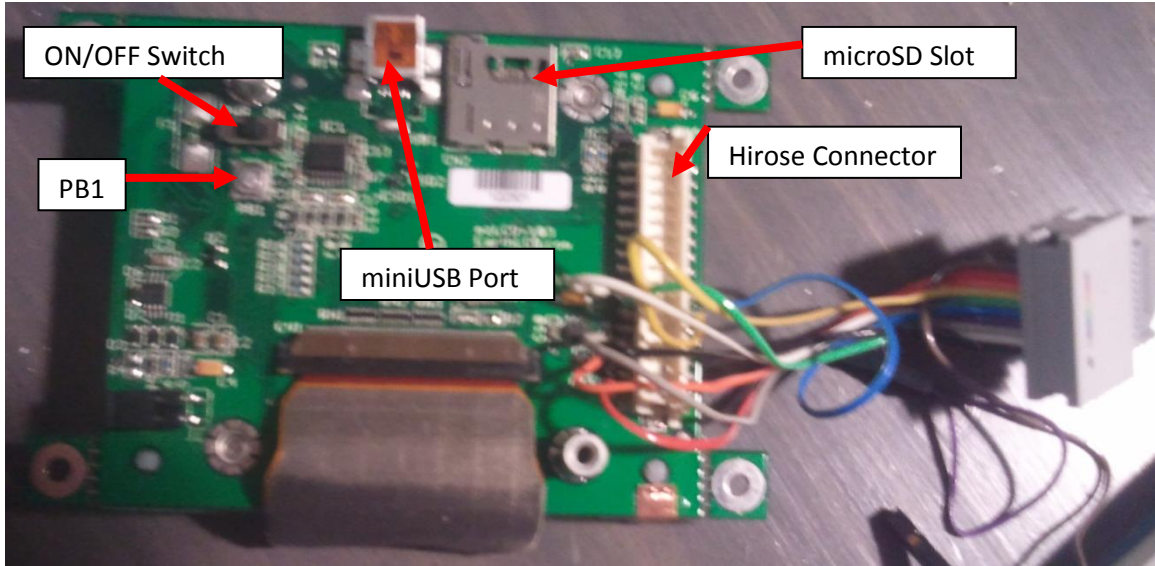

Figure 5: ezLCD+103 close-up (rear)
4. Insert it into the ezLCD+103’s microSD slot shown above in **figure 5**.
6. Hold down the **PB1** button on the rear of the display (shown in **figure 5**)